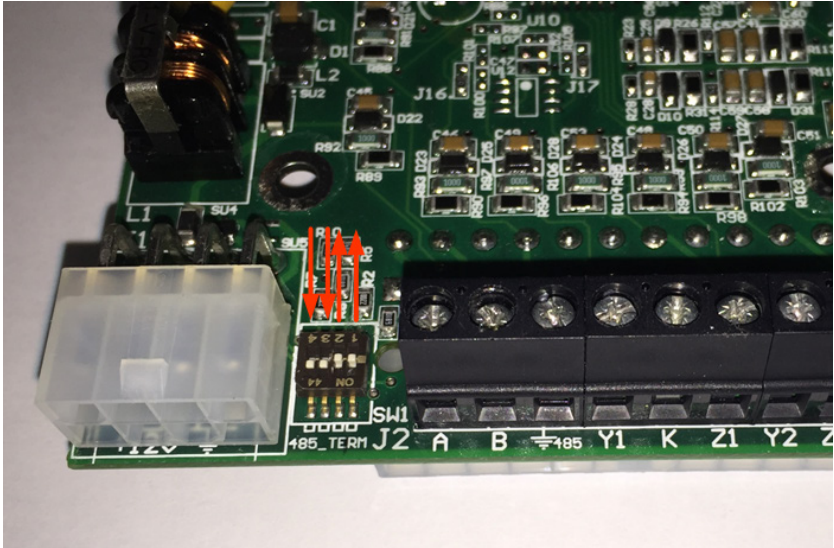

Figure 2.40 - The SolrenView Data Logger Printed Circuit Board and the Modbus Termination Dip Switches.
4. The SolrenView data logger is shipped from the factory with the Modbus termination turned ON. The two Modbus termination dip switches closest to the white Molex connector (#3 and #4 on SW1) should be in the ON position towards the edge of the board. (See Figure 2.40)